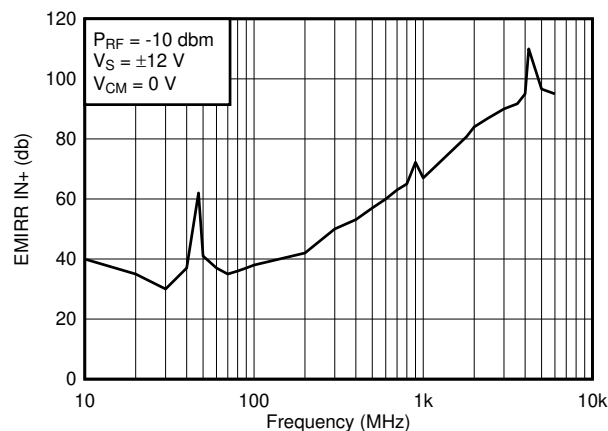

図 7-6. OPA2140 EMIRR
- EMIRR is easier to measure on noninverting pins than on other pins because the noninverting input terminal can be isolated on a PCB. This isolation allows the RF signal to be applied directly to the noninverting input terminal with no complex interactions from other components or connecting PCB traces. Figure 7-6